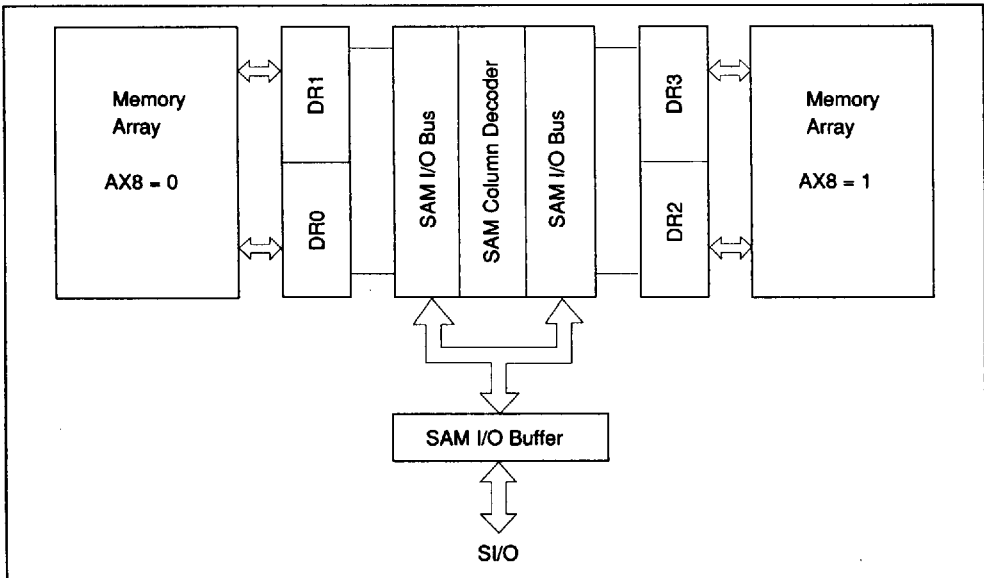

Figure 4 Split Transfer Block Diagram
Figure 4 shows the block diagram for the normal split register operation. SAM data register (DR) consists of 2 split buffers, whose organizations are 256-word \times 8-bit each. Suppose that data is read from upper data register DR1. (The row address AX8 is 0 and SAM address A8 is 1.) When split read transfer is executed setting row address AX8 to 0 and SAM start addresses A0 to A7, 256-word \times 8-bit data is transferred from RAM to the lower data register DR0 (SAM address A8 is 0)